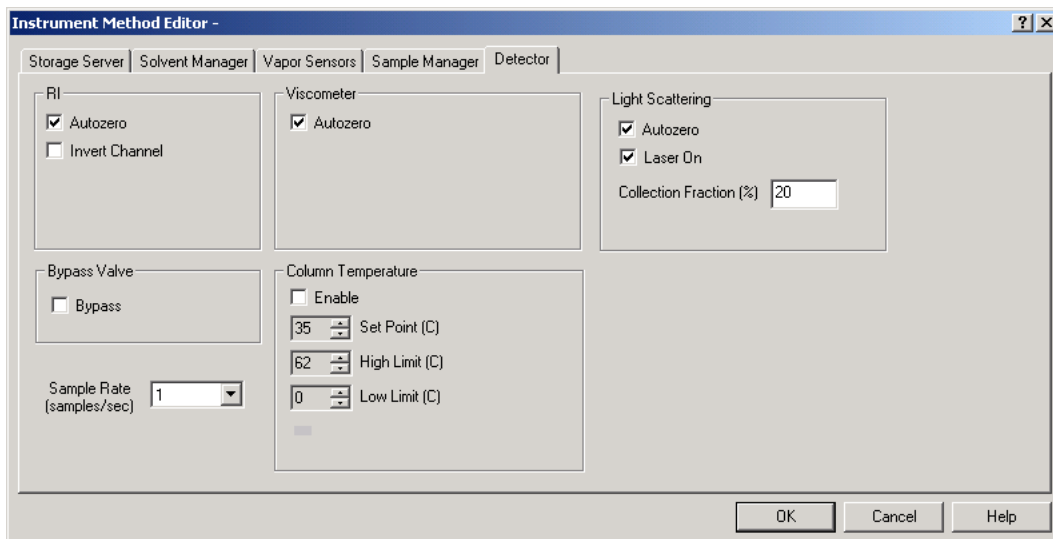

Figure 3-21 Detector Page
1. Click the Detector tab in the Instrument Method Editor dialog box (Figure 3-21).